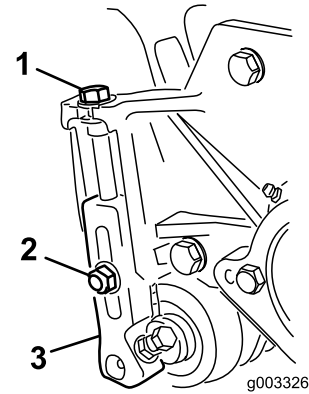

Figure 11
3. Loosen the locknuts securing the height-of-cut brackets to the cutting unit side plates (Figure 11).